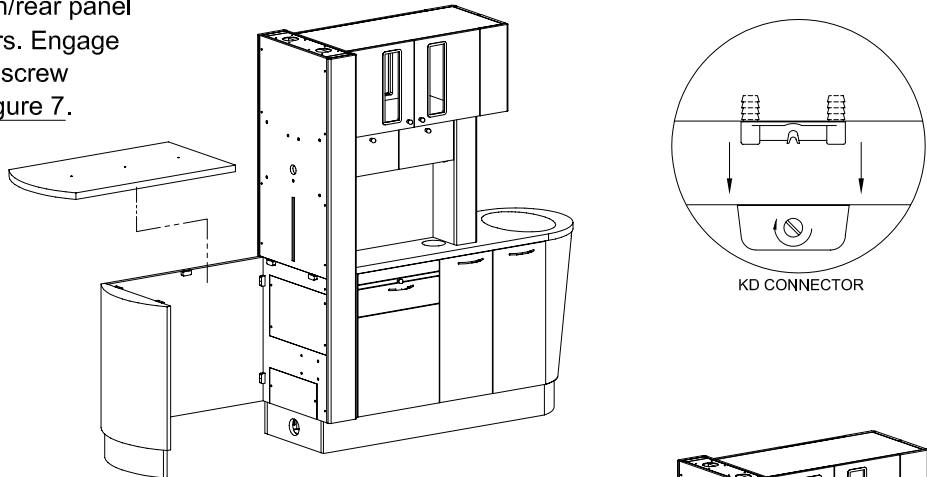

FIGURE 7
Place the top onto the end column/rear panel and connect the (5) KD connectors. Engage the KD connectors by turning the screw clockwise about 1/2 turn. See Figure 7.